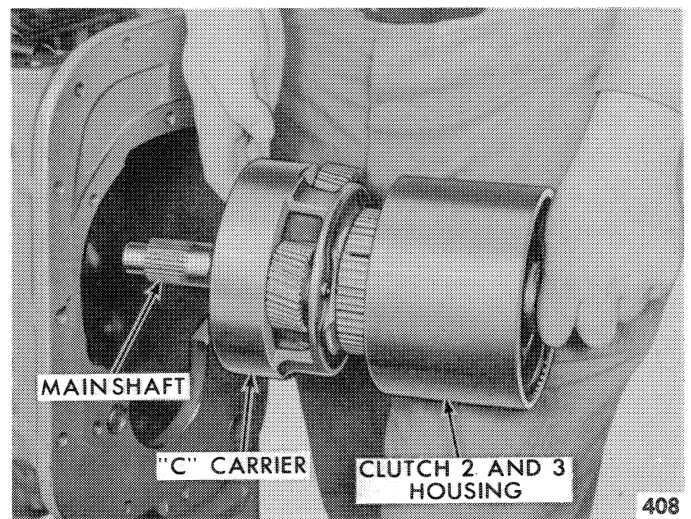

Figure 87—Removing the Mainshaft, "C" Carrier and Clutch 2 and 3 Housing
5. Loosen the No. 3 band adjusting screw and remove the clutch 2 and 3 housing, and "C" carrier and the mainshaft in one assembly, as shown in Figure 87.